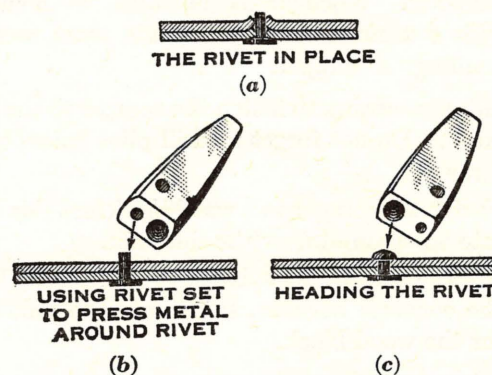

Fig. 115—Riveting. (a) The rivet in place. (b) Using a rivet set to press the metal around the rivet. (c) Heading the rivet
4. Rivet the pieces together. In riveting, there are several things to be done. The pieces to be riveted should be placed on a metal block or anvil with the head of the rivet down. (See Fig. 115.)
of the box. The head of the rivet must rest on a metal block while the riveting is being done. (See Fig. 115.)